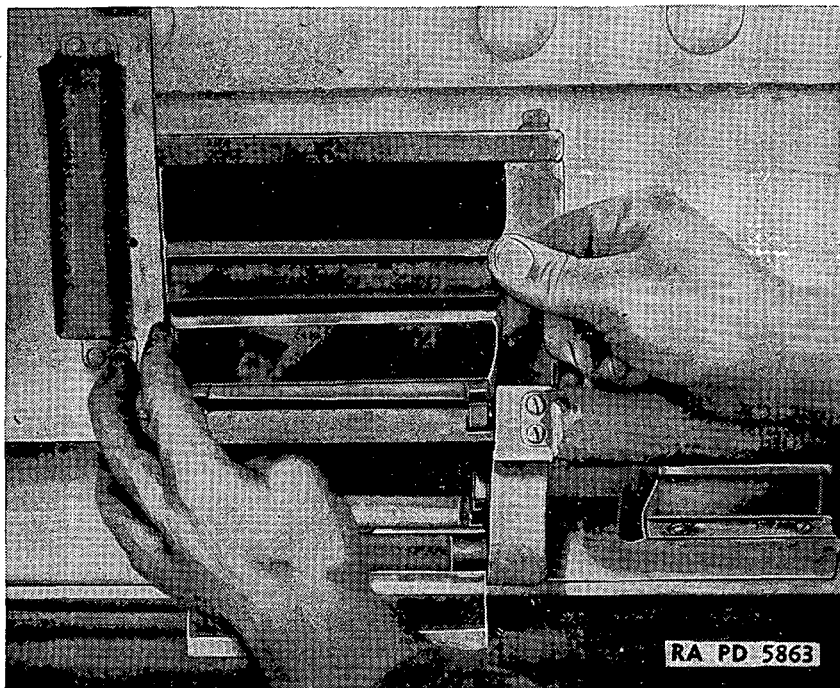

FIGURE 88.—Removal of mirror No. 2.
8. Loosen the cam locking screws (fig. 88) and remove mirror "2," or remove deflector and clean mirror, deflector trunnions, and bearings.